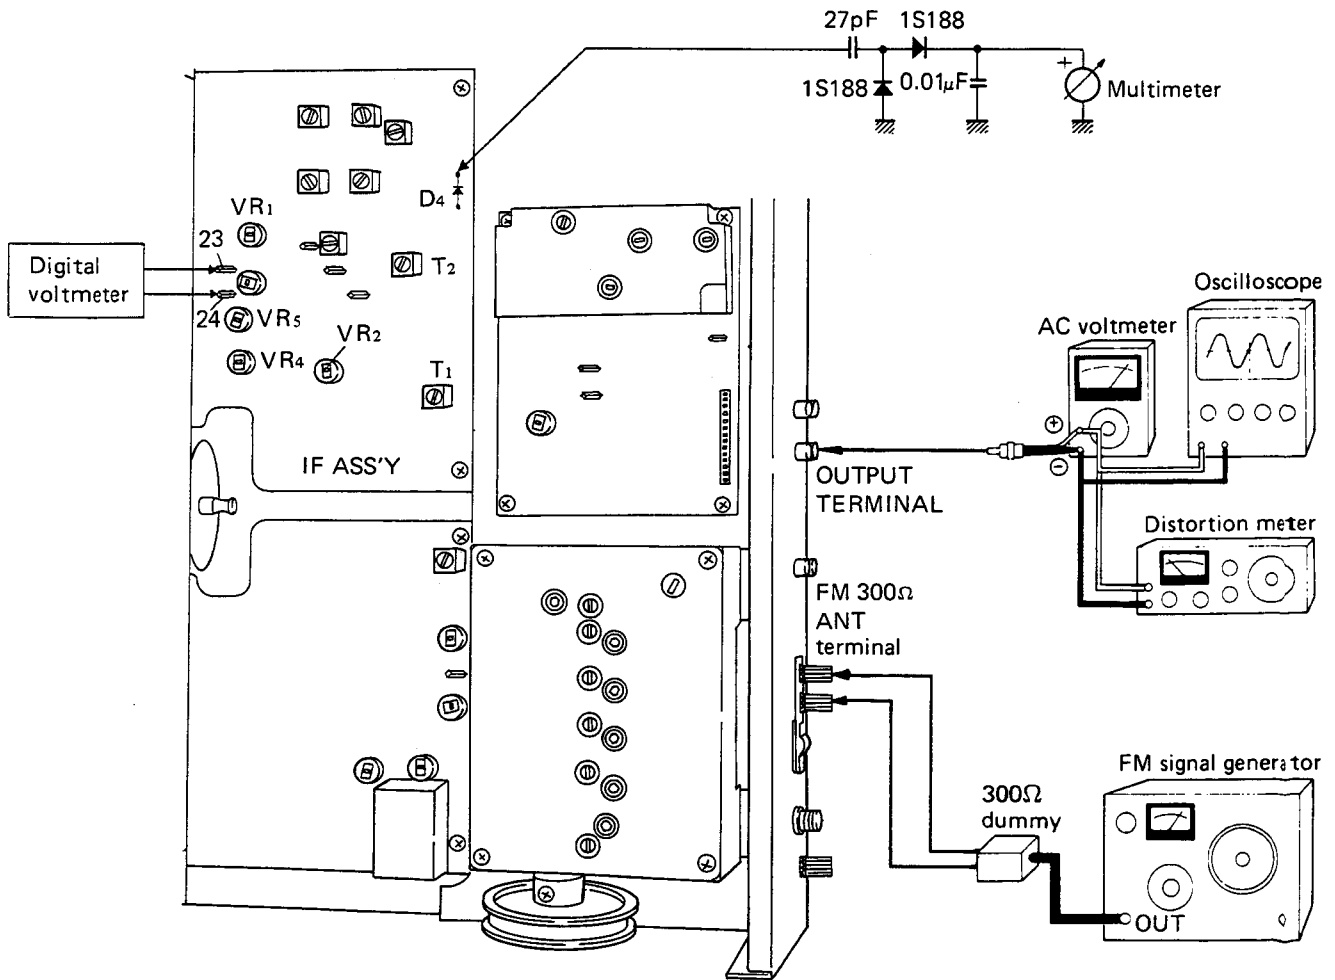

Fig. 38
1. Connect up the various measuring instruments as shown in Fig. 38.